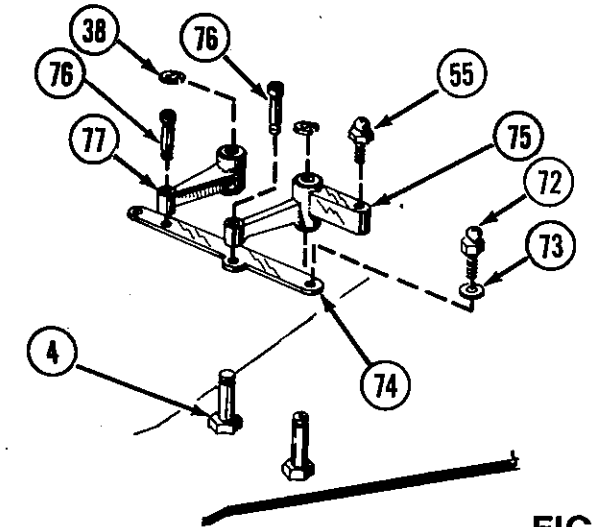

FIG. 33
1. Thread two 3/16" studded ball joints (72) using brass washers (73) in both ends of steering sector arm (74). Fig. 33.
2. Thread 3/8" studded ball joint (55) into the smallest hole in servo saver (75). Attach servo saver (75) to steering sector arm (74) using a 4-40 x 1/8" shoulder screw (76). Check for freedom of movement. Fig. 33.
3. Attach idler arm (77) to the remaining hole in the steering sector arm (74) using a 4-40 x 1/8" shoulder screw (76). Fig. 33.
4. Slide servo saver (75) and idler arm (77) down onto steering posts (4) with steering sector arm (74) in front of steering posts (4) and secure with two 3/16" E-clips (38). Fig. 33.